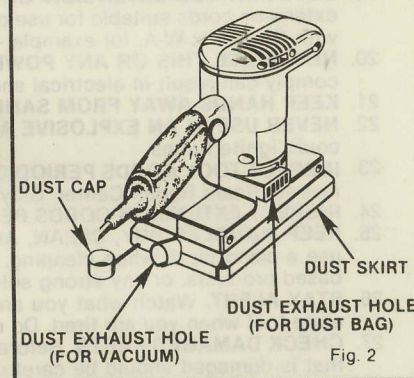

Fig. 2
1. Place opening in dust bag retainer over dust exhaust hole and secure into position. See Figure 2.
1. Remove dust cap from hole on rear of dust skirt. See Figure 2.
3. Connect the pickup adapter end of your hose to dust exhaust hole, located on rear of dust skirt. See Figure 2.